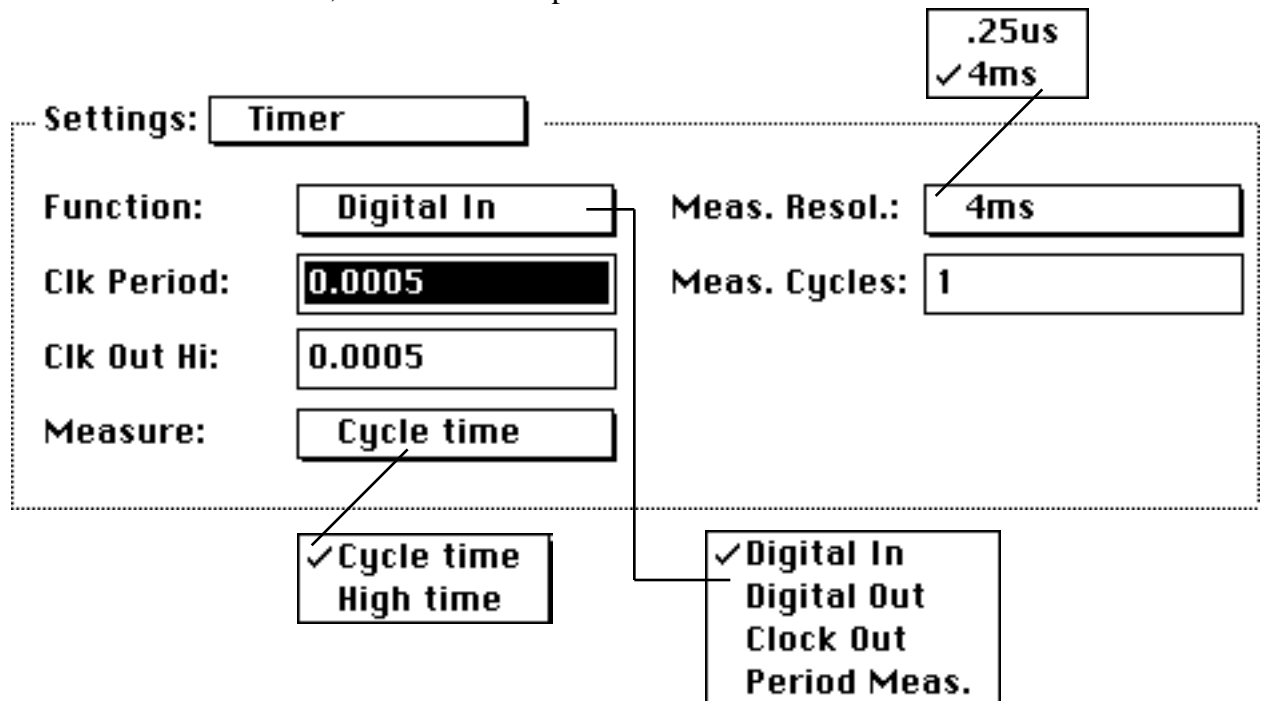

Figure 2.25 The Timer Settings Area
- Select the Network page by clicking the Network tab, and then click in Column #1 of the first controller's Ch 1 Timer channel (you might need to scroll down a little). When the Probe dialog appears, select Timer in the Settings popup, as illustrated in Figure 2.25.